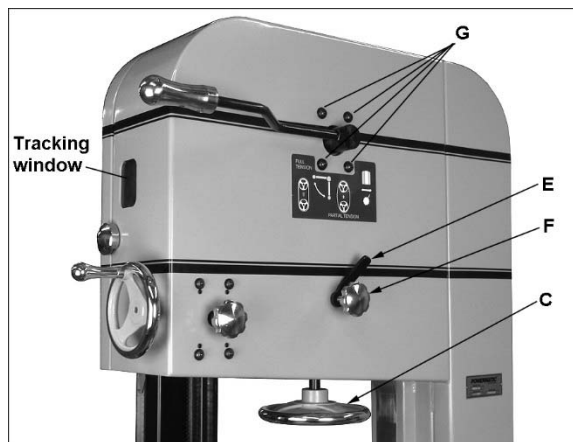

Figure 24: blade tension/tracking
Refer to Figure 24.
3. With blade centered on wheels, move quick tension lever to “Full Tension” position, as shown in Figure 24. NOTE: You will be able to feel the lever fall into each position.
4. Rotate tension handwheel (C, Figure 24) until scale pointer (Figure 25) reaches appropriate measurement for blade width.
4. Set quick tension lever to "Full Tension" position, as shown in Figure 24.
**IMPORTANT:** Make tracking adjustments with knob (F, Figure 24) while blade is at full tension. DO NOT use screws (G, Figure 24); these were used by the manufacturer for wheel alignment and should NOT be used for tracking.
6. If blade tends to move toward edge of wheel, loosen locking lever (E, Figure 24) and slightly rotate tracking knob (F) with your right hand while continuing to rotate wheel with your left. Observe blade through tracking window. Rotate tracking knob clockwise to move blade toward rear edge of wheel. Rotate counterclockwise to move blade toward front edge of wheel.
7. When blade is tracking in center of wheel, re-tighten locking lever (E), and close upper door.